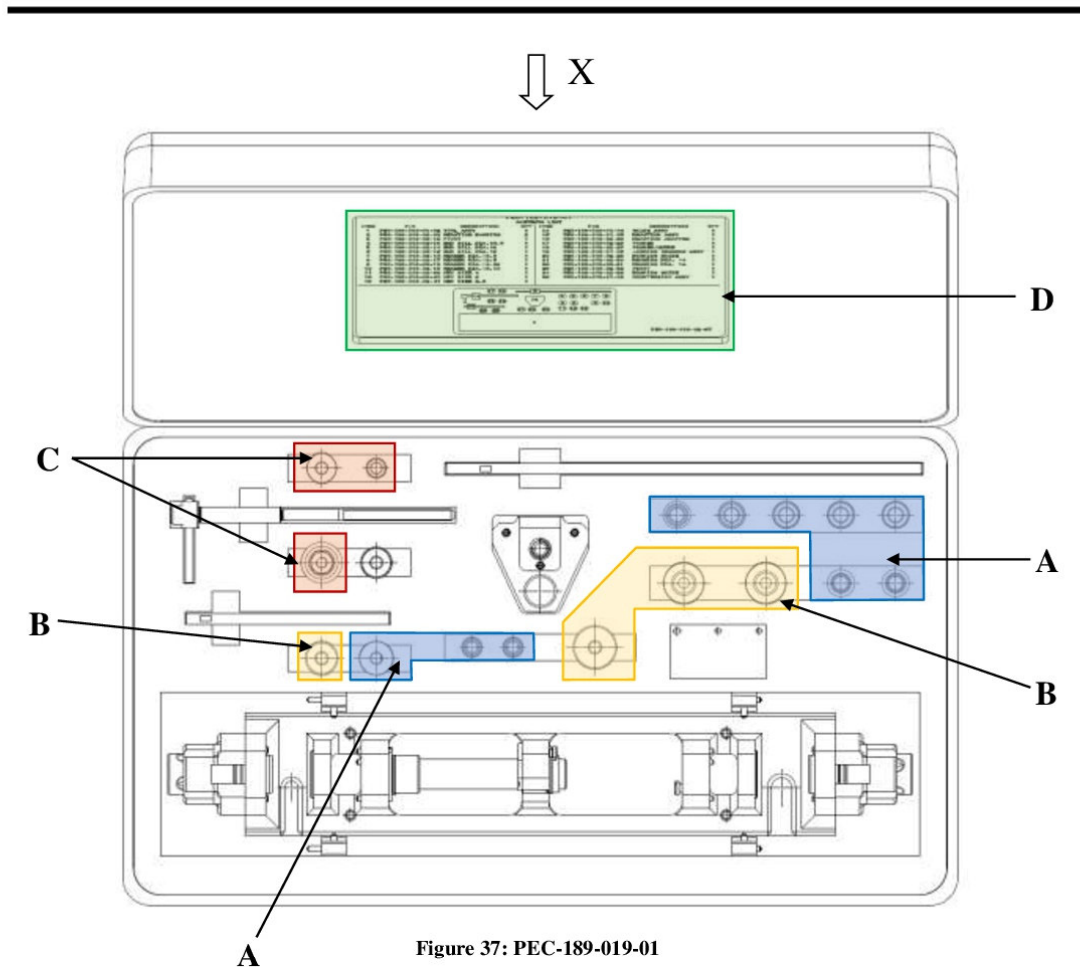

Figure 37: PEC-189-019-01
A. Examine all parts for any of the visible damage that follows (ref. figure 37 and 38):